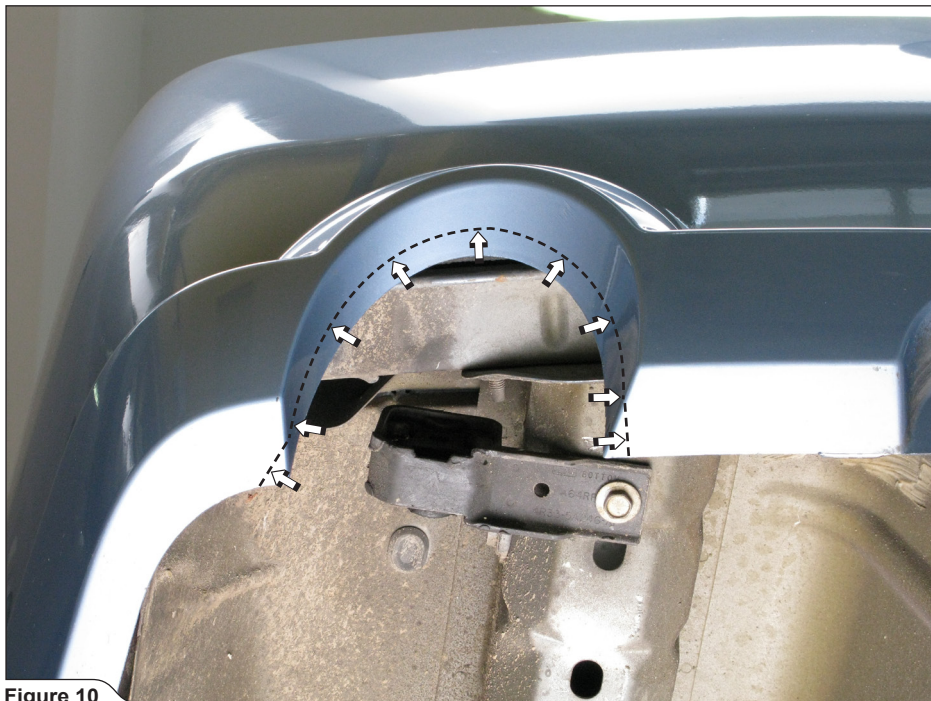

Figure 10
4. **Optional for Slip-On and Evolution:** to gain larger clearance between rear bumper and Tail-Pipes, you can cut the bumper on both sides, as shown (**Figure 10**).